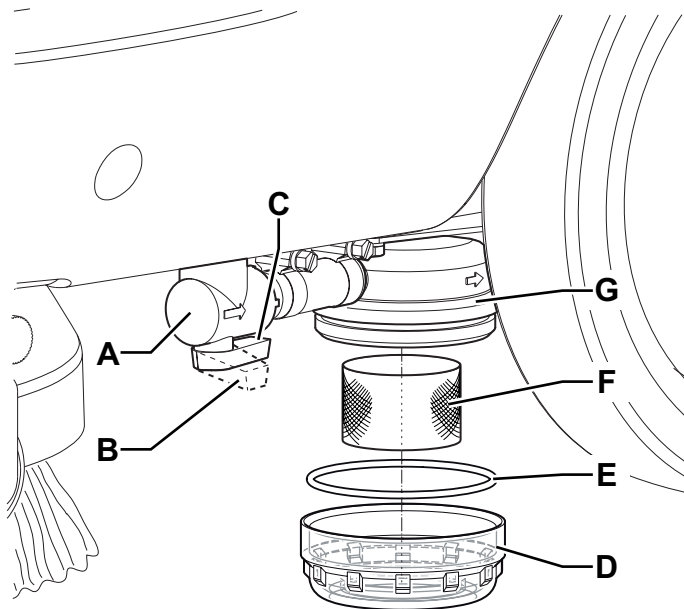

Figure 9
2. Make sure that the power supply cable plug (21) is disconnected from the electrical mains.
3. Close the solution valve (A, Fig. 9) under the machine, in front of the left rear wheel.